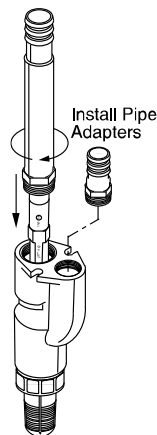

Figure 6
6. Wrap 1-1/2 turns of Teflon tape onto the threaded end of the pipe adapter. Thread the long adapter (furnished) into the ejector discharge port (slide it over the venturi to install it). Tape and install a short adapter (not furnished - purchase locally) in the drive port (See Figure 6). The adapters must be tight - if the assembly leaks, the pump will not lift water from the well.